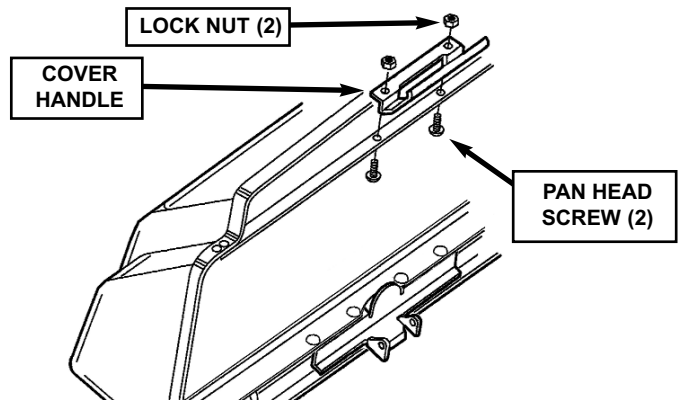

FIGURE 12
STEP 10: Install the cover handle onto the screen support bar, behind the front of the cover assembly, securing with two pan head screws and lock nuts. See Figure 12.